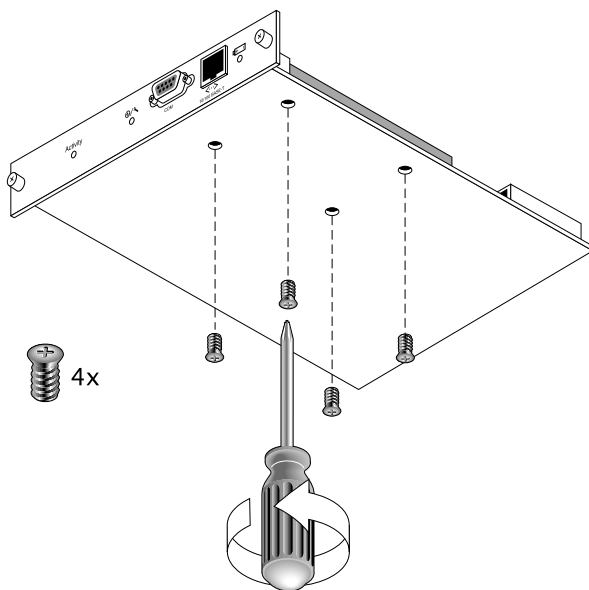

FIGURE 4-7 The Underside of the Battery Module With Screws Being Removed
- 4. Remove the battery screws on the underside of the module to release the battery from the battery module, similar to the screw removal shown in FIGURE 4-7.**